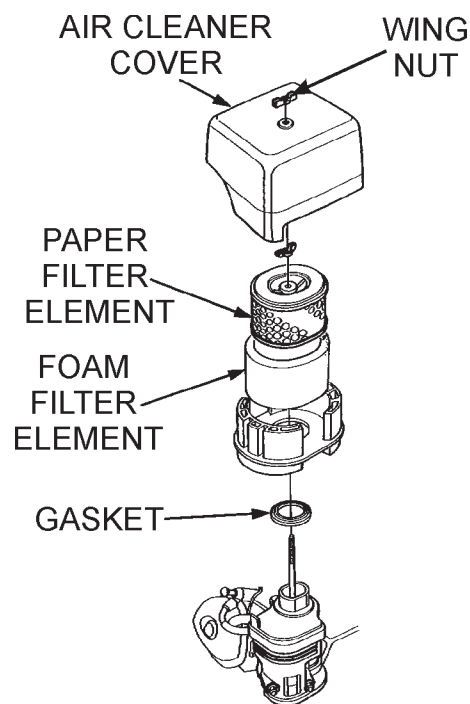

Figure 25. Engine Air Cleaner
1. Remove the air cleaner cover and foam filter element as shown in Figure 25.
2. Tap the paper filter element (Figure 25) several times on a hard surface to remove dirt, or blow compressed air [not exceeding 30 psi (207 kPa, 2.1 kgf/cm²)] through the filter element from the air cleaner case side. **NEVER** brush off dirt. Brushing will force dirt into the fibers. Replace the paper filter element if it is excessively dirty.